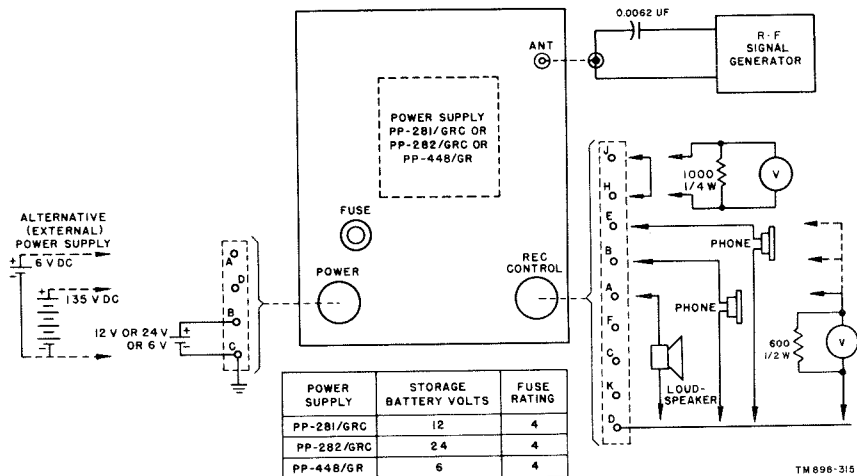

Figure 32. Test setup connections.
(fig. 32)
If the receiver is to be tested alone it is necessary to install a vibrator power supply, a source of operating power, audio receiving devices (a headset and loudspeaker), measuring instruments, and test signal sources. Test instrument and signal source connections are made in accordance with individual test procedures. External connections are to be made as shown in figure 32.
(1) Make sure that the internal power selector switch, S1, is in the OFF position at this time. The setting of the VOLUME control is immaterial, since the power switch, S2, is not in the external supply circuit. Also, fuse F1 is not in the external supply circuit. Switch S1 provides the only internal means for turning the external power on or off.
(2) Connect the 6-volt filament supply between terminals A (+) and C (-) (ground) of J6. Connect the 130-volt plate supply between terminals D (+) and C (-) (ground) of J6. Use heavy-duty leads, one end equipped with connectors suitable for attachment to the particular power supply sources used, and the other with a four-prong connector to mate with female connector J6. Turn internal switch S1 to the EXTERNAL SUPPLY position to turn on power to the receiver.
d. Antenna Connections. Connect G1 (rf signal generator) as shown in figure 32. Set up the signal generator for an rf output of 1 microvolt modulated at 1 kc with 15-kc deviation.